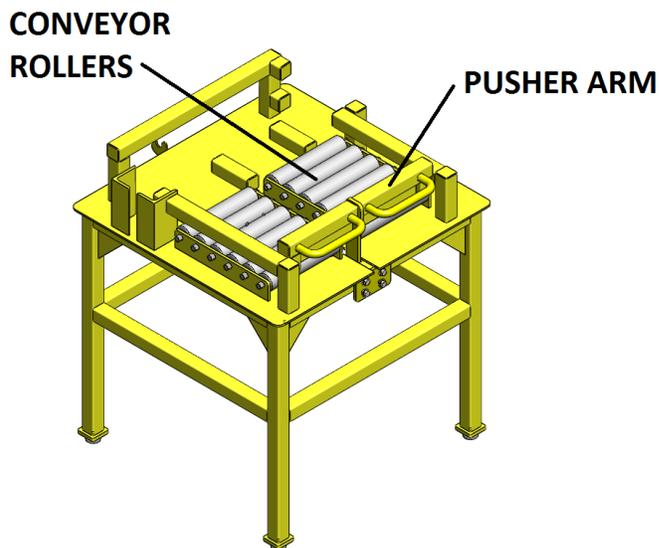

FIGURE 1
1. Inspect the table before use. All the conveyor rollers must be in place and moving freely (Figure 1). The table pusher arm must be in the retracted (open) position.